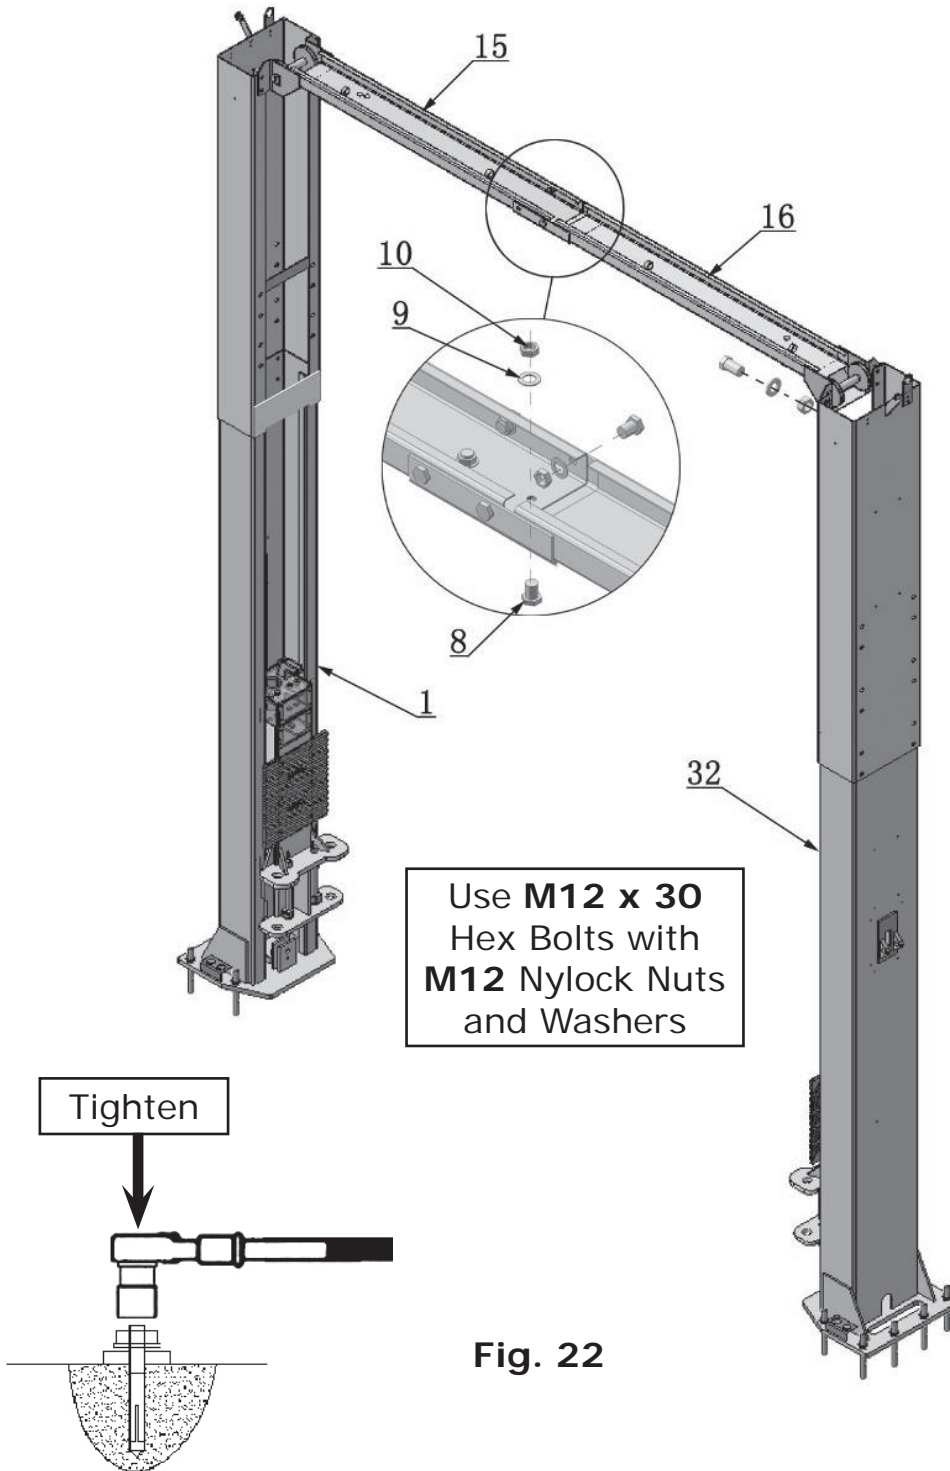

Fig. 22
2. Assemble overhead top beam, tighten the anchor bolts between 60 and 86 foot pounds. (See Fig. 22).